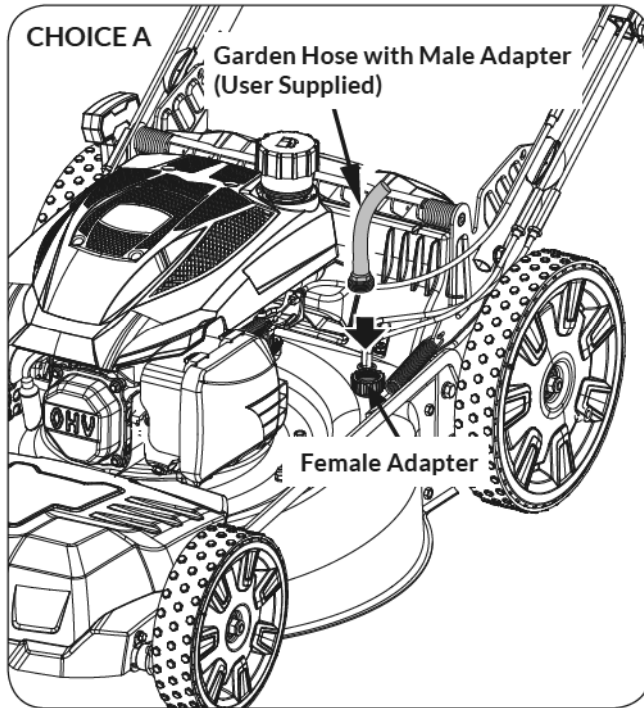

Figure 16
3. Attach the garden hose with the male adapter (user supplied) to the female adapter on your deck's surface. (See **Figure 16**).